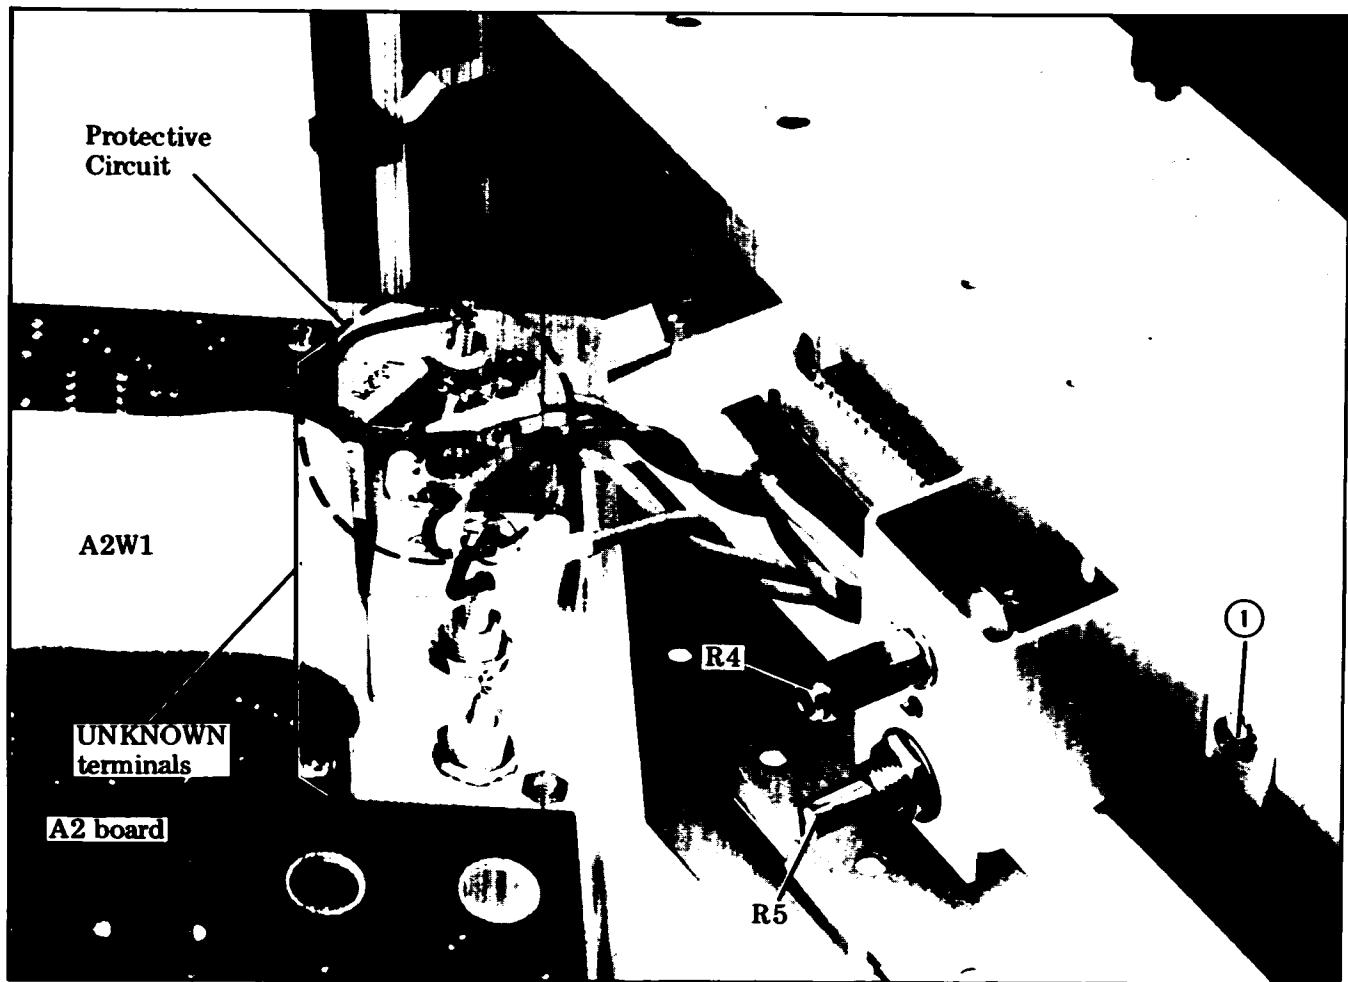

Figure 8-13. Protective Diode and ZERO ADJ Control Potentiometer Replacement.
b. Remove retaining screw ① shown in Figure 8-13.